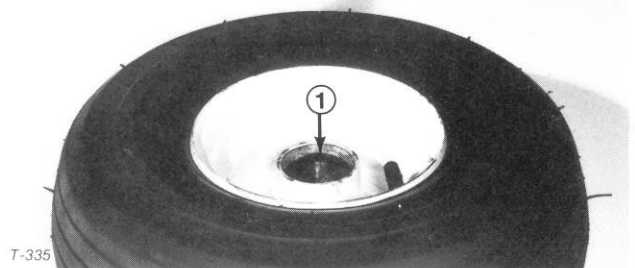

Figure 39
3. Remove bearings from wheel hub (Fig. 39). Clean the bearings in solvent and assure they are in good operating condition. Also, clean the inside of the wheel hub.